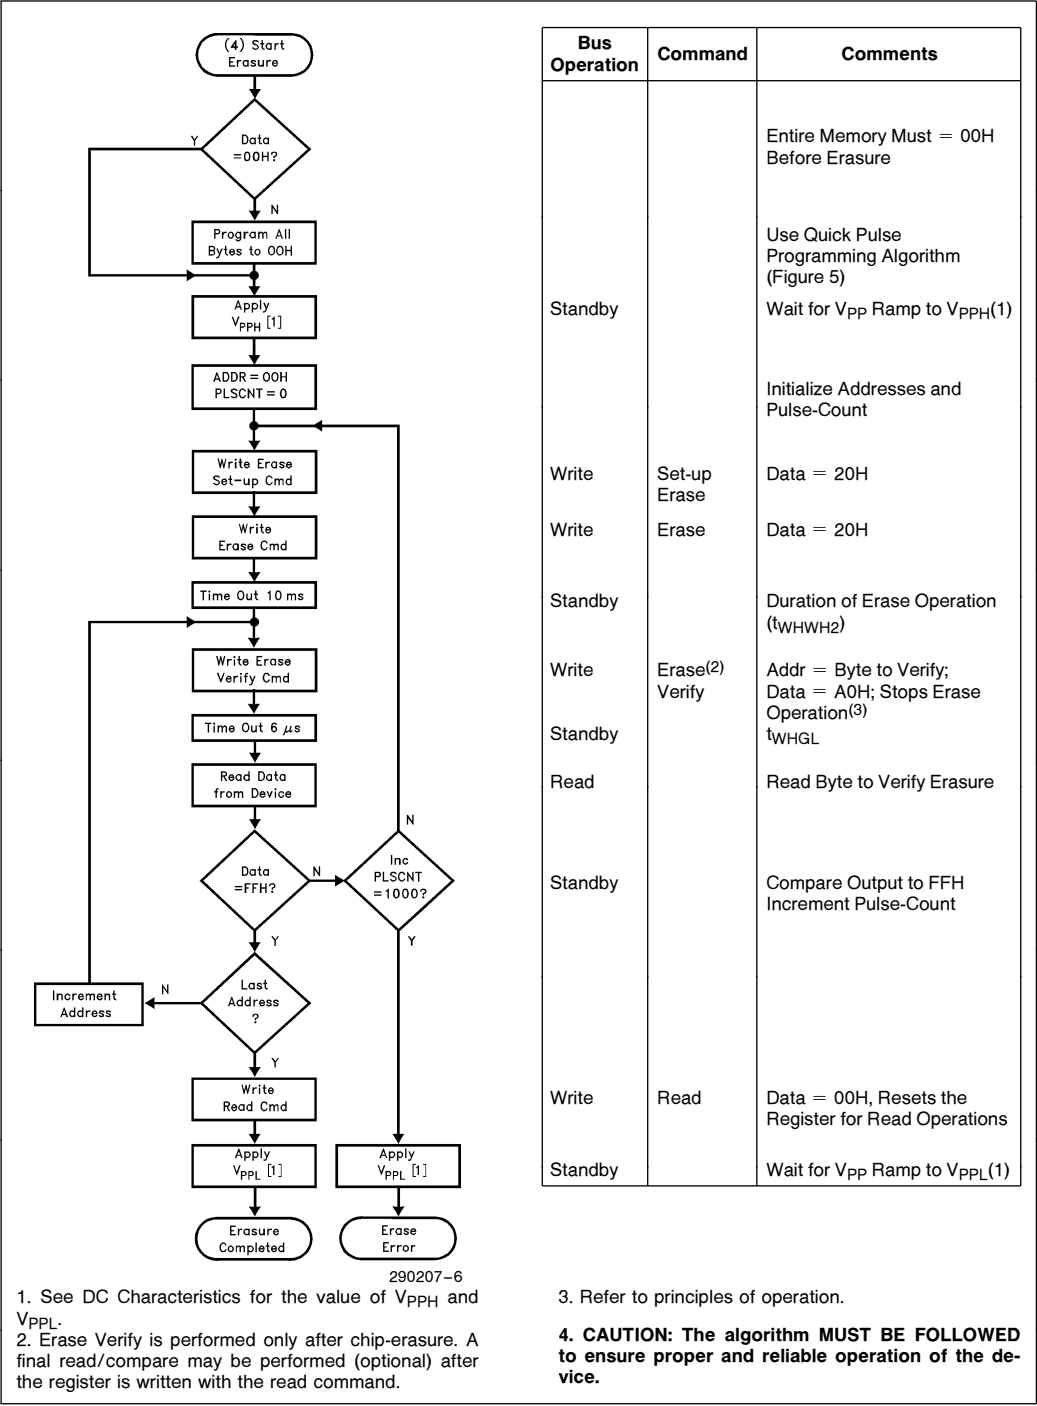

Figure 6. 28F010 Quick Erase Algorithm
- Figure 6 illustrates the Quick Erase Algorithm.
In the case where the data read is not FFH, another erase operation is performed. (Refer to Set-up Erase/Erase). Verification then resumes from the address of the last-verified byte. Once all bytes in the array have been verified, the erase step is complete. The device can be programmed. At this point, the verify operation is terminated by writing a valid command (e.g. Program Set-up) to the command register. Figure 6, the Quick Erase algorithm, illustrates how commands and bus operations are combined to perform electrical erasure of the 28F010. Refer to AC Erase Characteristics and Waveforms for specific timing parameters.
Erase execution then continues with an initial erase operation. Erase verification (data = FFH) begins at address 0000H and continues through the array to the last address, or until data other than FFH is encountered. With each erase operation, an increasing number of bytes verify to the erased state. Erase efficiency may be improved by storing the address of the last byte verified in a register. Following the next erase operation, verification starts at that stored address location. Erasure typically occurs in one second. Figure 6 illustrates the Quick Erase algorithm.